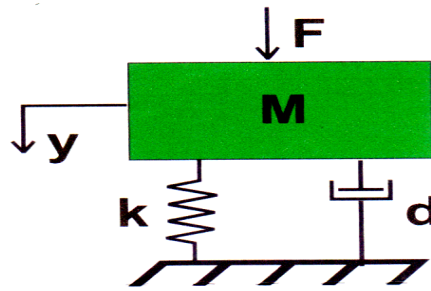

Figure 2
- Q7) a)** For the system in Figure 2, assume $M=\text{mass}=1\text{ kg}$, $k=\text{stiffness}=2\text{ N/m}$ and $d=\text{damping}=0.5\text{ Ns/m}$. Also, $F=\text{force input in N}$ and $y=\text{displacement output in m}$. [10]